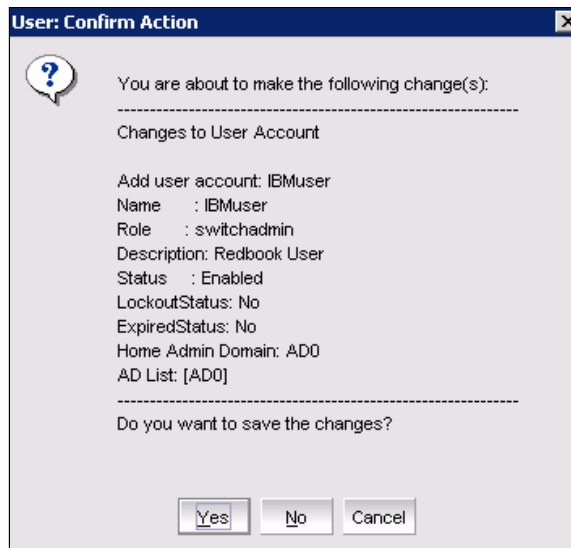

Figure 8-88 Confirm changes to user account
4. For the changes to be committed successfully to the switch, you must click **Apply** to open a window and confirm your actions, as shown in Figure 8-88.